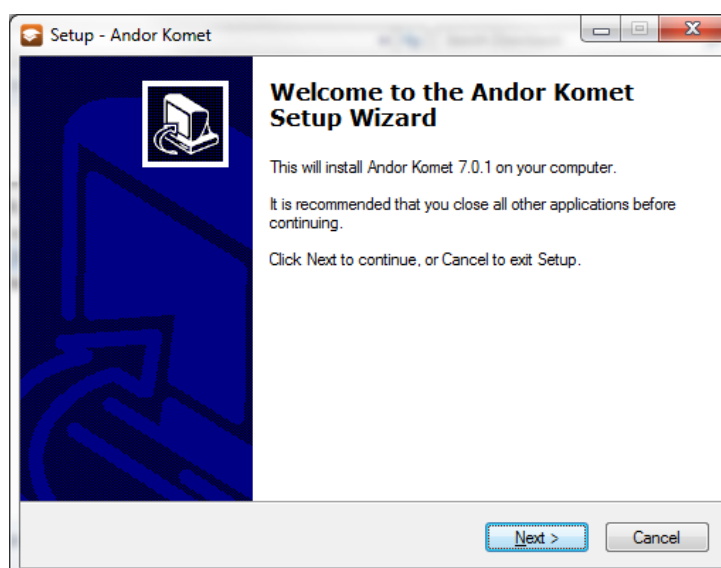

Figure 186. Andor Installation Window (note that the appearance of this menu will vary with your software version).
2) You will see this dialogue shown in Figure 186. Select Next...